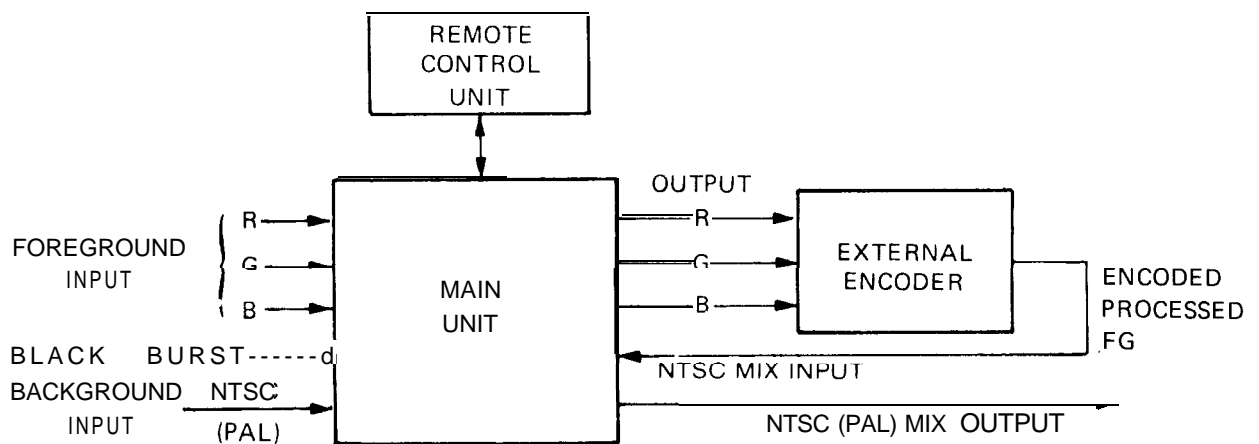

Figure 2-6. Connection for NTSC Background
**2-8. SETUP FOR NTSC BACKGROUND.** (See figure 2-6.) When the background scene is from an NTSC (or PAL) source, the foreground scene is
As in figure 2-6, foreground input could be in any selectable format with an RGB output to the external encoder. The encoder produces a composite in the same format as the background, which is mixed in the Ultimatte-5 to produce the composite NTSC (PAL) MIX output signal.